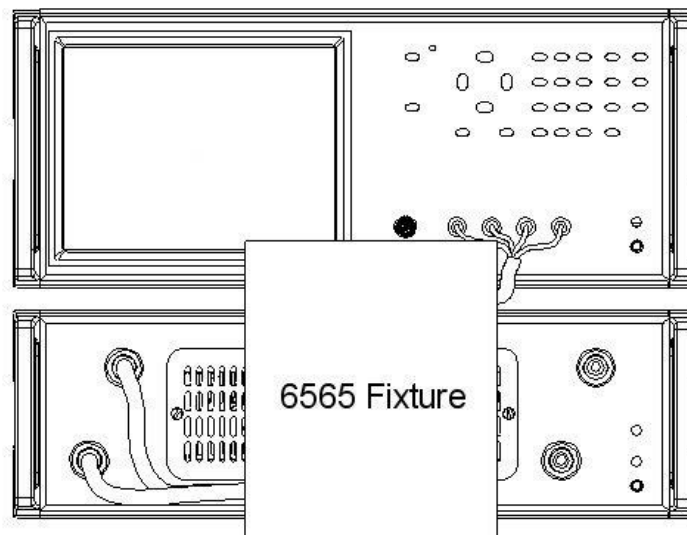
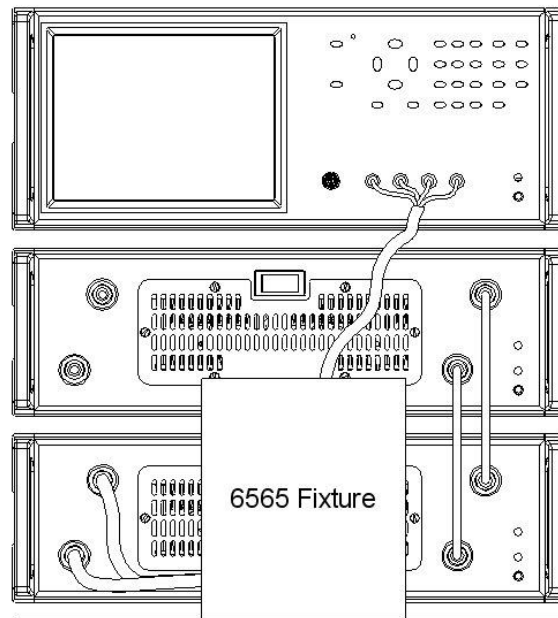

Figure 3-2 Front Panel Connections for 2-Terminal Measurement One 6565
Figure 3-4 Two Stacked Bias Units with a 6500 Impedance Analyzer and a 1026 Fixture
The 1026 fixture allows connection of up to two 6565 units to test leaded components up to a maximum bias current of 20A and to the specified maximum test frequency of either 6565 or 6500 unit up to a maximum of 120MHz. Note: this fixture should not be operated above 20A since to do so will cause internal overheating of the components inside the 1026 and the 6565 coaxial current-carrying cables. Please consult the connection diagrams Figure 3-2 and Figure 3-4 before using this unit. The interlock cable 3.5mm jack connector should be connected between the 6500 rear panel and the rear of the 1026. This is mechanically connected to the translucent cover which, if lifted, will either switch off the bias current to the device under test or prevent it being applied. The 1026 also has temperature overload sensing on the jaws to prevent components overheating in situ. In such a case the bias current will be turned off.
- 1) Position the 6500 impedance analyzer on top of two 6565 units. See Figure 3-4, Figure 3-5 and Figure 3-6.